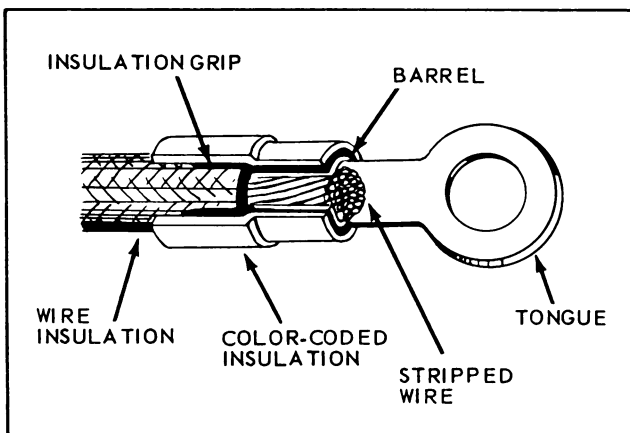

Figure 5-2. Pre-Insulated Terminal Lug - Cutaway
5-7. PRE-INSULATED TERMINAL LUGS. Small copper wires (sizes #22 through #10) are terminated with solderless pre-insulated straight copper terminal lugs conforming to Specification MIL-T-7928 and Military Standard MS 25036. As shown in Figure 5-2, the insulation is part of the terminal lug and extends beyond its barrel, so that it will cover a portion of the wire insulation; this makes the use of an insulation sleeve unnecessary. In addition, all pre-insulated terminal lugs contain an insulation-grip (a metal reinforcing sleeve) beneath the insulation, for extra gripping strength on the wire insulation.
h. Insert stripped wire into terminal lug barrel until wire insulation butts flush against end of barrel inside terminal lug pre-insulation. See Figure 5-2.